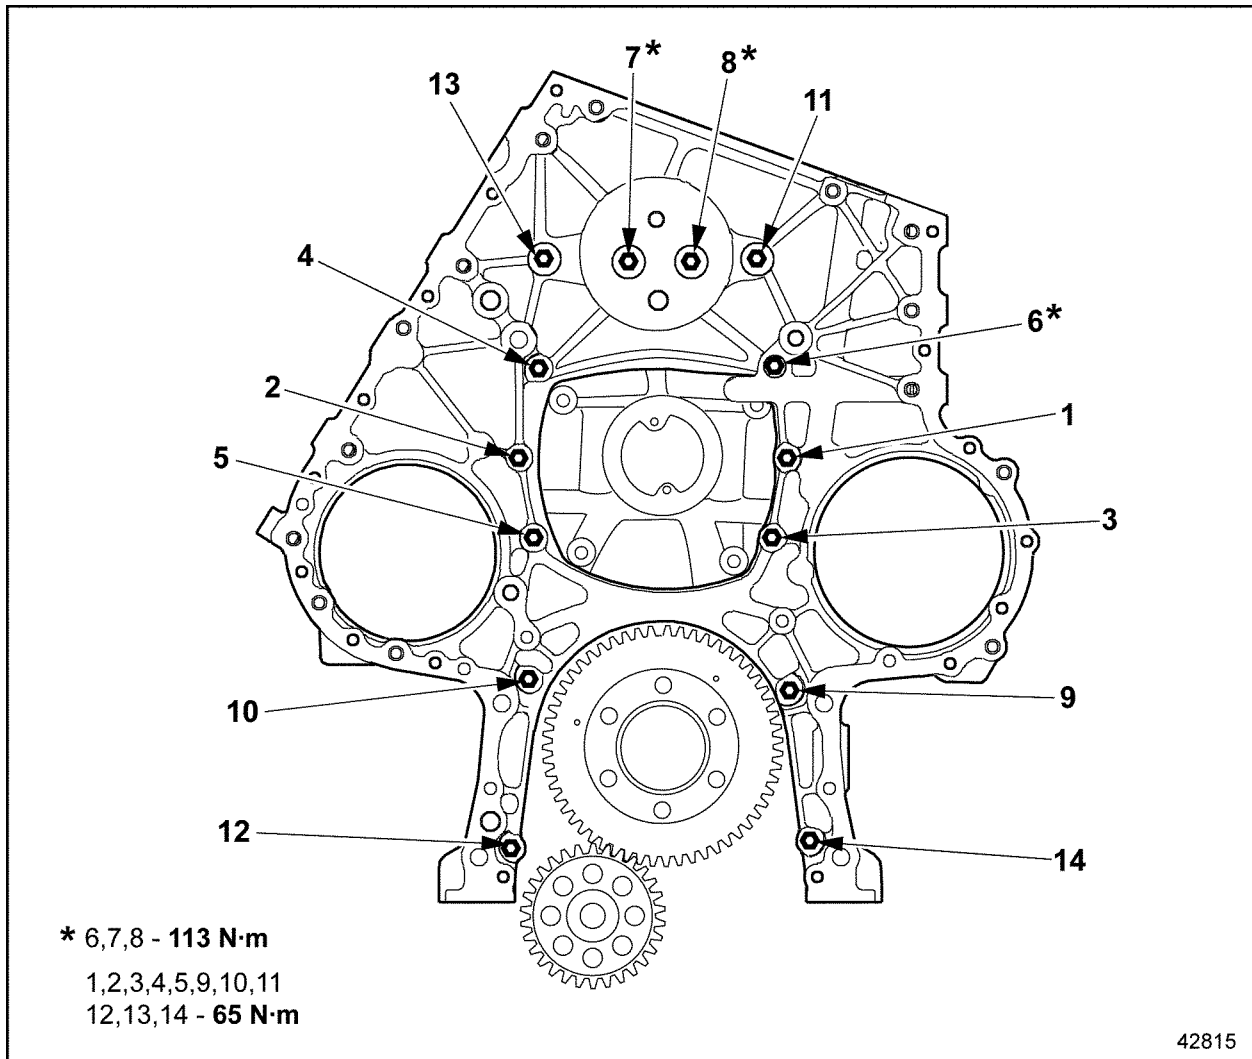

Figure 1-230 Gear Case Torque and Torque Sequence
4. Install the 14 gear case to cylinder block bolts. See Figure 1-230 for the bolt torque and torque sequence.